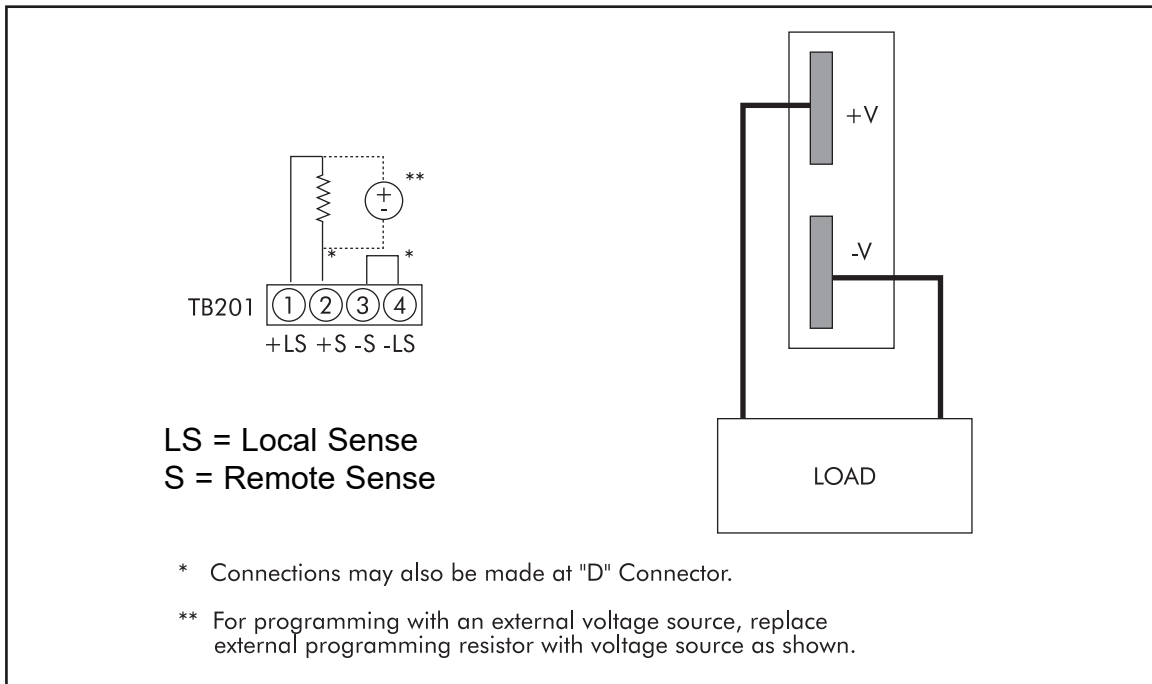

Figure 4 - Remote Voltage Control with an External Programming Resistor or Voltage Source (Local Sensing)
Remote Voltage Programming external resistor.	1000 ohms per volt for resistor connected between pins 1 and 2 on TB201 (see Figs. 4 and 5).
Remote Voltage Programming external voltage source.	Volt per volt for voltage source connected between pins 1 and 2 on TB201 (see Figs. 4 and 5).
2. With the power supply unloaded, set  $V_{out}$  to the OVP threshold desired. In cases where the desired OVP threshold exceeds the unit's adjustment range maximum of 29.4V, a programming resistor (see figures 4 & 5) will temporarily be needed to provide the higher output voltage to perform the adjustment. Once adjusted, remove the programming resistor. Alternatively, you may use an external voltage source to set the OVP threshold as shown in figures 4 & 5.